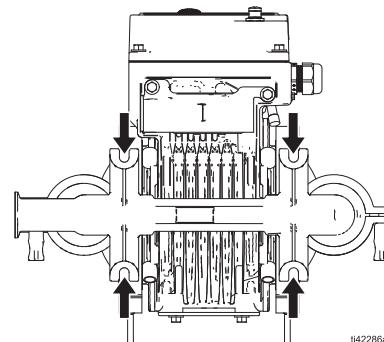

FIG. 6: Mounting Holes
To avoid pump damage, mount the pump to the mounting surface using fasteners through each hole of the feet. See FIG. 6.
Mount the pump to the mounting surface using fasteners through each hole of the feet. See FIG. 6.
3. For all mountings, be sure the pump is secured with fasteners through the mounting holes on the base. See FIG. 6. See **Dimensions**, starting on page 56.